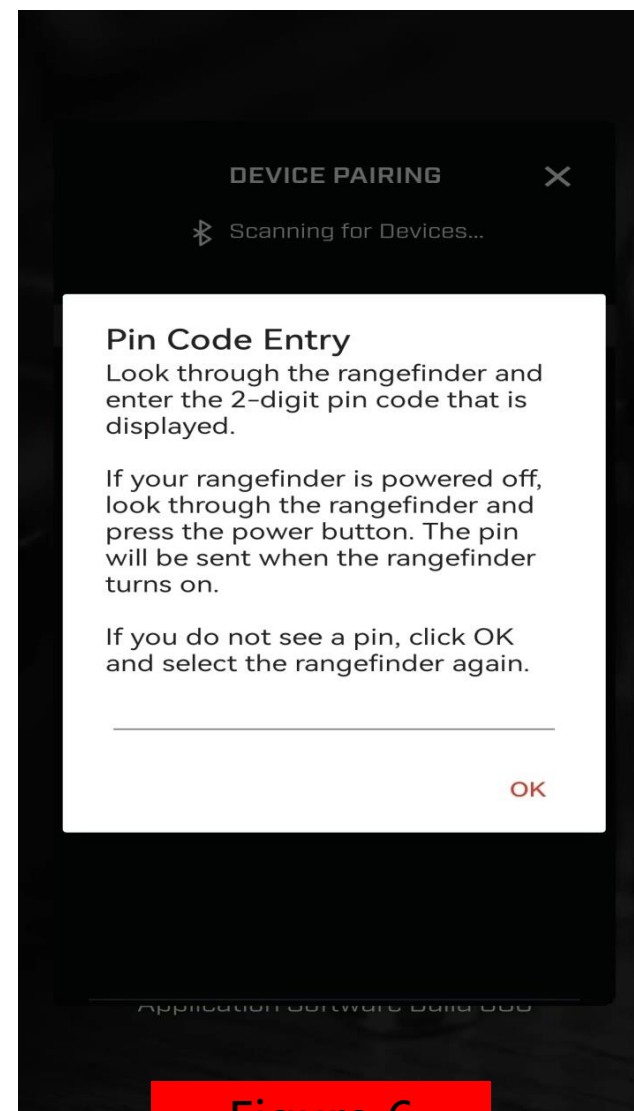

Figure 6
- 5) Click "WMLRF-*****" to enter the matching interface as shown in Figure 6,